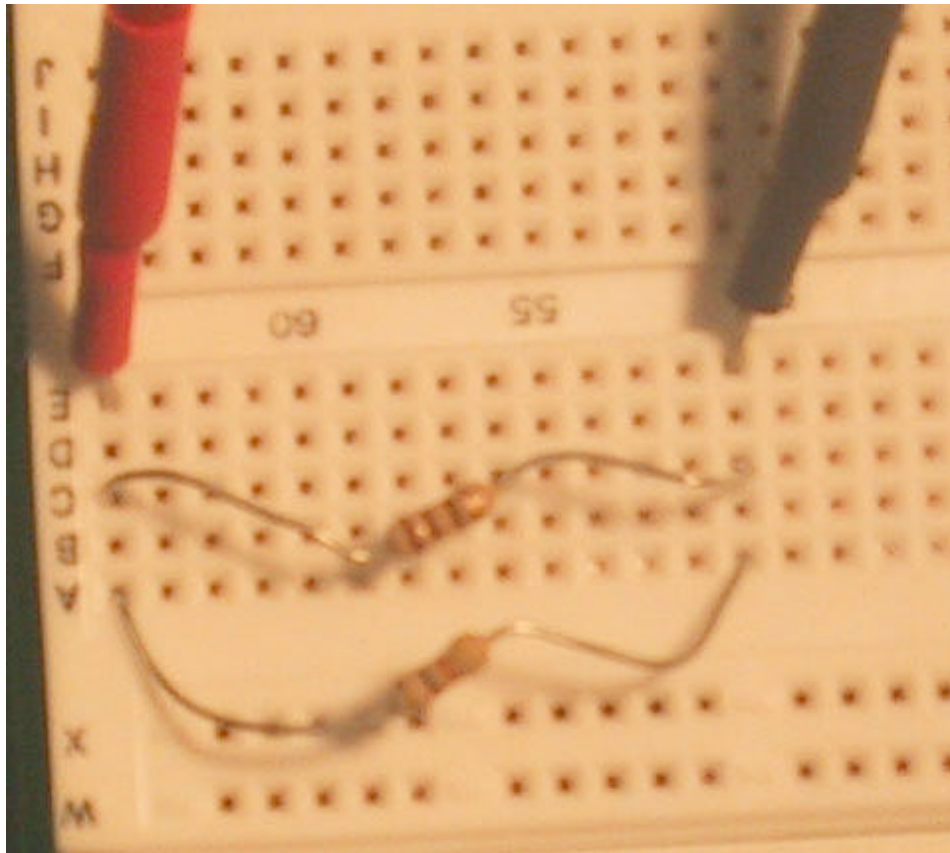

Figure 1.15
A. Pick 2 nodes on the breadboard. As shown in Figure 1.15, place the first resistor from your previous table in these two nodes. Although Figure 1.15 shows two resistors in parallel, you can measure one resistor the same way. (Note: Sometimes you have to wiggle the end of the resistor to insert it into a hole on the breadboard. If one hole is too difficult, pick another hole or node.) Because we are measuring resistance, we will measure in parallel to the element of interest. We also measure voltage in parallel to the element of interest. In the future, when we measure current, we need to measure in series with respect to the element of interest. More on this will be discussed when we start to measure current.